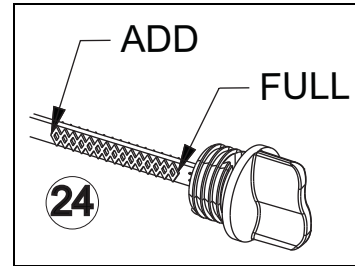

Figure 4-2. Oil Fill/Dipstick
5. Fill to the upper level on the dipstick. See Figure 4-2.